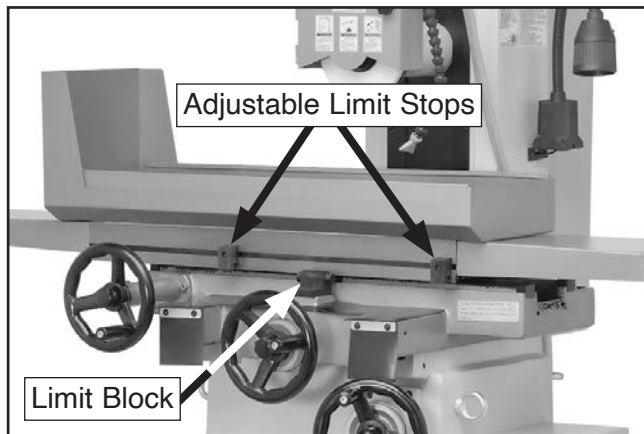

Figure 48. Limit stop identification.
The Model G3104/G3155 is equipped with (2) adjustable rubber limit stops and a limit block. These components work together to restrict the movement of the table along the X-axis. These components also provide additional safety by acting as a physical barrier to prevent the table from sliding off the ways (see **Figure 48**).
1. Loosen cap screw on each limit stop (see **Figure 48**).